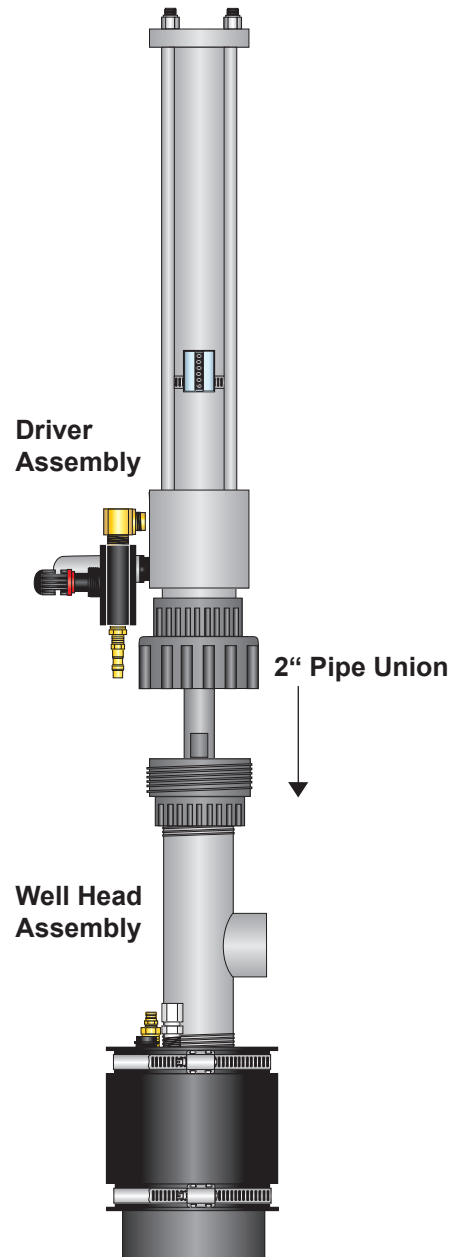

Figure 18
23. Lower the drive rod back down into the well, holding the driver high enough so the drive rod does not kink as it is fed back in. As the driver gets closer to the well, position it as vertically as possible so the driver shaft feeds straight down in the drop pipe. Attach the driver assembly onto the well-head assembly by screwing the 2" pipe union hand tight (**Figure 18**).